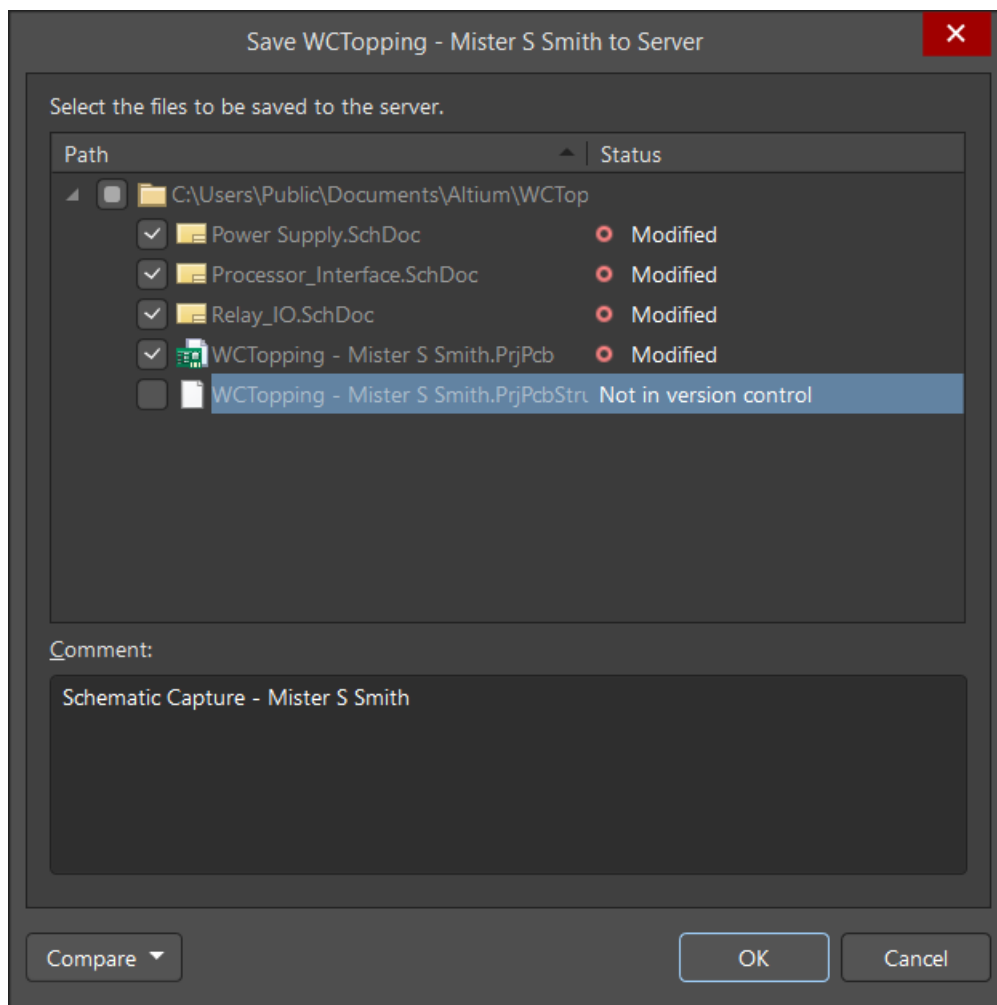

Figure 19. Save to Server
42. At the dialog *Save [Project Name]*, as seen at Figure 19: